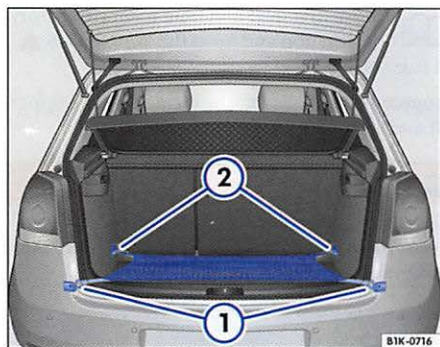

Fig. 92 In the luggage compartment: Luggage net hung horizontally.
- Secure the luggage net hooks to the tie-down hooks ⇒ fig. 92 ② ⇒ ⚠. The luggage net zipper must face upwards.
- Secure the luggage net hooks to the tie-down hooks ①.